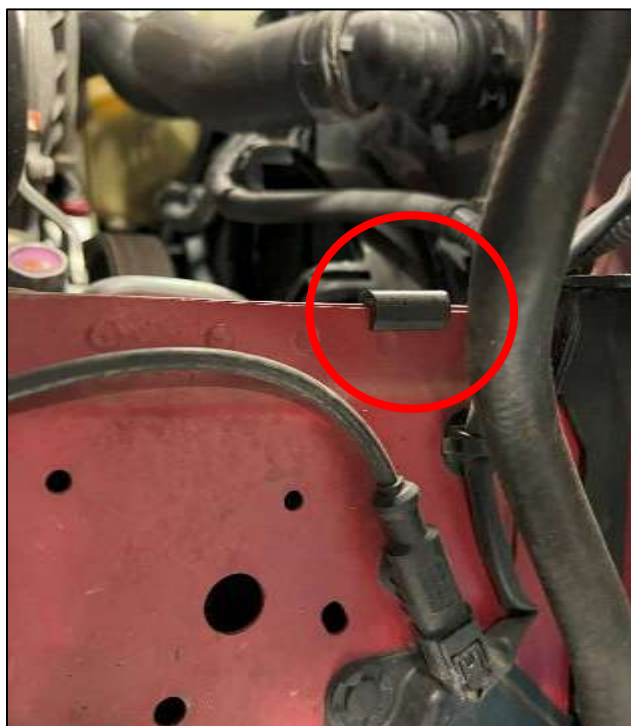

Figure 33
10. Position the small Split Rubber Trim Piece (#32) on the pinch weld of the passenger side frame. *Figure 33.*